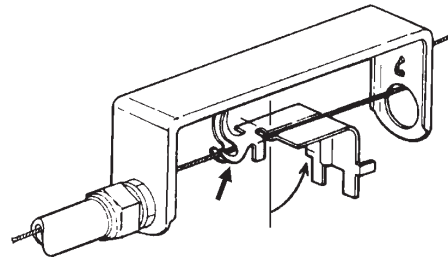

FIGURE 22
8. With the tab positioned on the wire rope, press and snap the detector linkage onto the wire rope. See Figure 22.